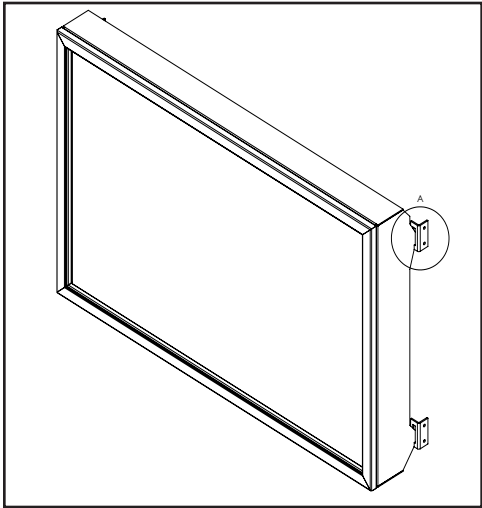

Figure 40: Installing Safety Screen onto Cabinet Bracket (Parts removed for clarity)
To install the safety screen hold it upright in front of the fireplace with four (4) hooks pointing towards the fireplace. Slide the hooks into the corresponding brackets on each side of the cabinet (see figures 40 and 41). Ensure the hooks are secure to confirm correct installation. To remove the safety screen unhook it from the brackets by lifting up and out.